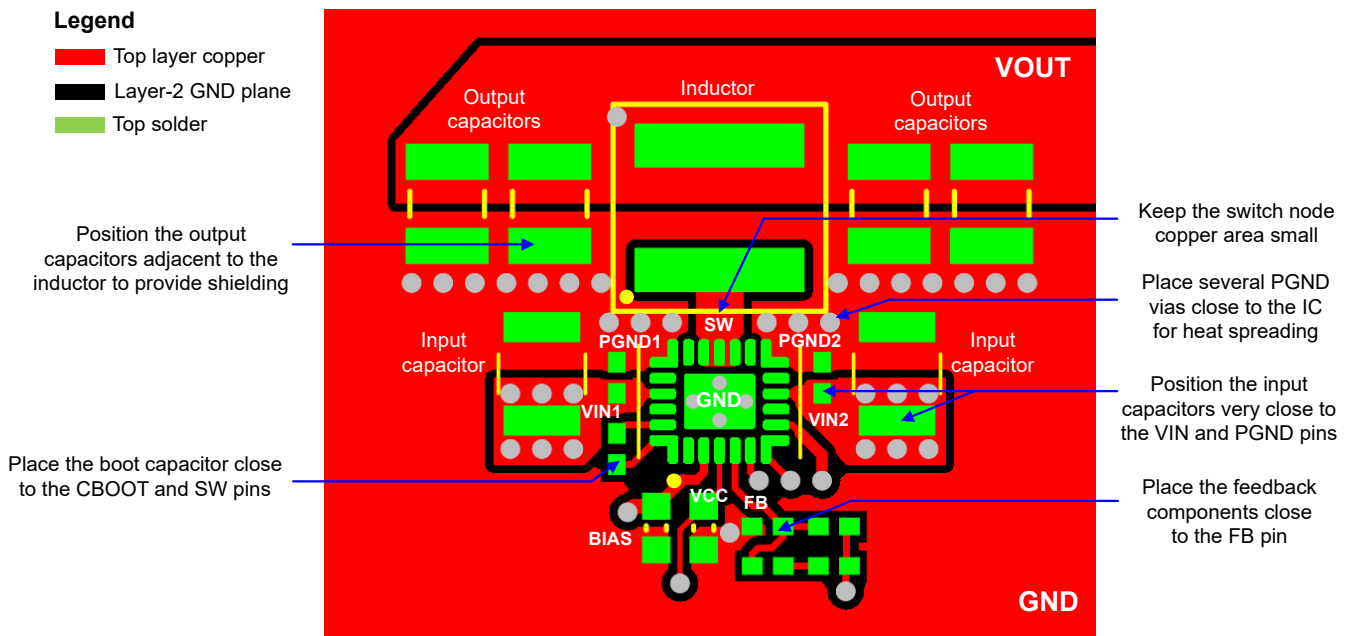

Figure 8-31. PCB Layout Example
The following list summarizes the essential guidelines for PCB layout and component placement to optimize DC/DC converter performance, including thermals and EMI signature. Figure 8-31 shows a recommended layout of either the LM63440-Q1 or LM63460-Q1 with optimized placement and routing of the power-stage and small-signal components.
- Use low-ESR ceramic capacitors with X7R or X7S dielectric from VIN1 to PGND1 and VIN2 to PGND2. Place an 0402 capacitor close to each pin pair for high-frequency bypass as shown in Figure 8-31. Use an adjacent 1206 or 1210 capacitor on each side for bulk capacitance.